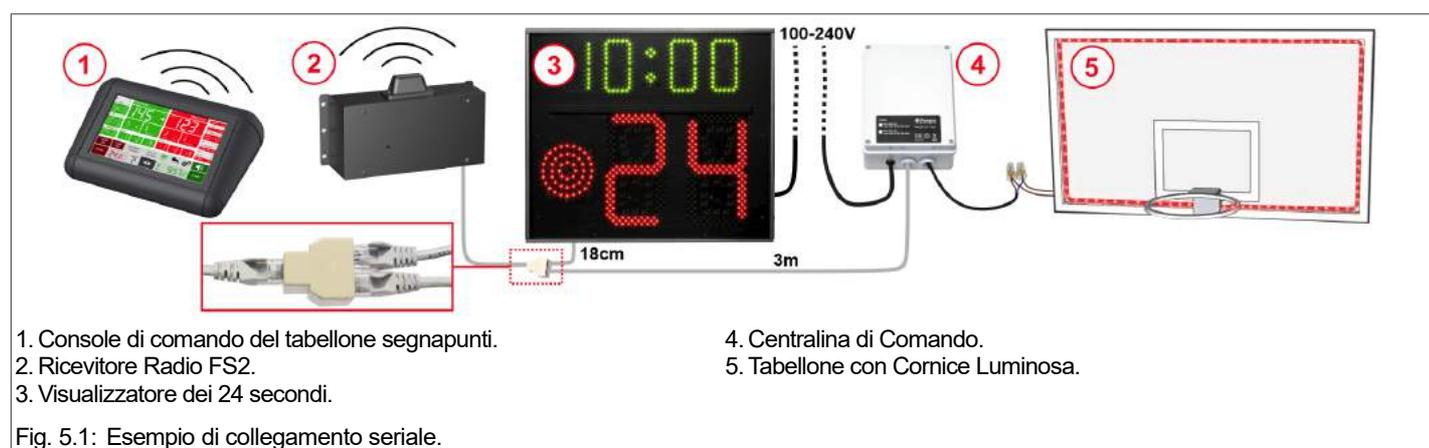

Fig. 5.1: Esempio di collegamento seriale.
2. Connect the serial data cable (Fig. 3.1 - 2). It is possible to split that of the 24-second shot-clock or, if present a **FS2 Radio Receiver** (art.265-20), to use one of its outputs (Fig. 5.1).